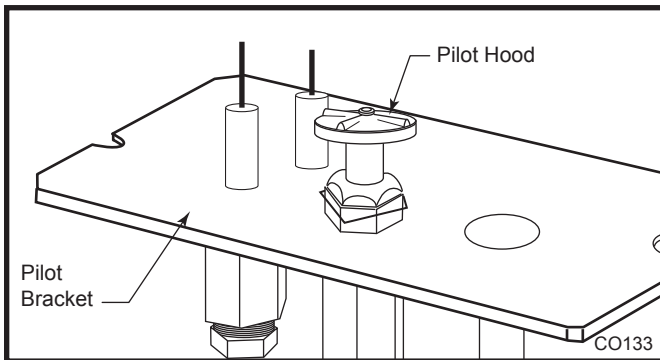

Fig. 52 Remove pilot hood.
1. Remove pilot hood by lifting up. (Fig. 52)